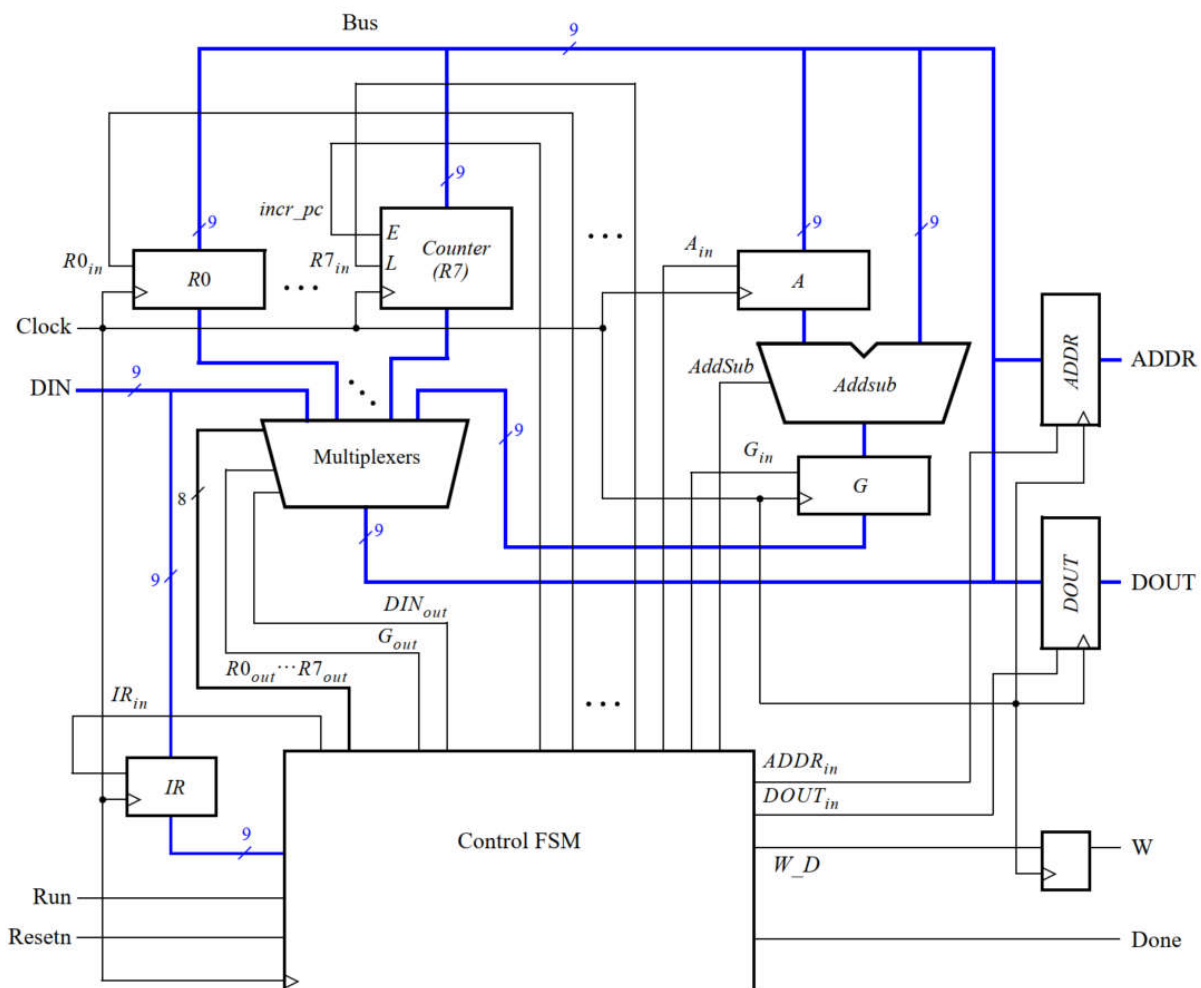
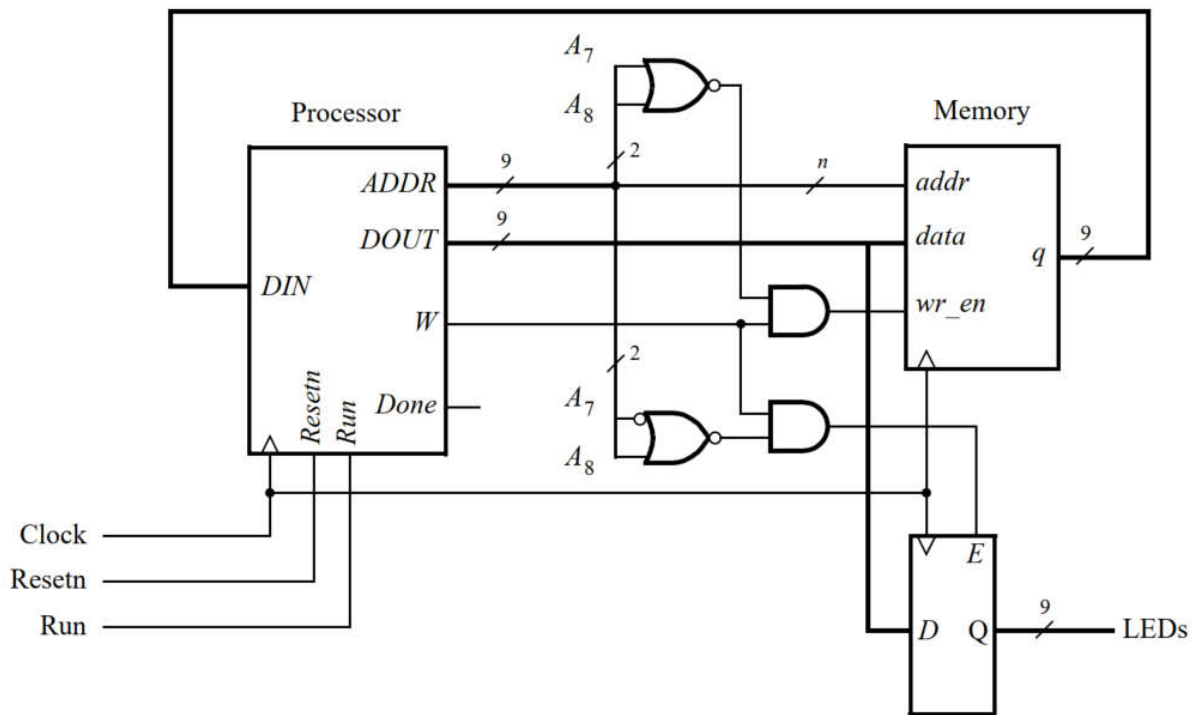

Figure 1: A reference schematic of the enhanced processor.
Figure 2: Connecting the enhanced processor to a memory and output register.
Requirement: Design and implement the processor which is shown in Figure 1. Then connect the enhanced processors to a memory and output register (Figure 2).
➤ Write System Verilog code for the processor and test your circuit by using functional simulation: apply instructions to the DIN port and observe the internal processor signals as the instructions are executed. Pay careful attention to the timing of signals between your processor and external memory; account for the fact that the memory has registered input ports, as we discussed for Figure 2.
➤ Create a Quartus project that instantiates the processor, memory module, and register shown in Figure 2. Use the Quartus IP Catalog to create the RAM: 1-PORT memory module. Follow the instructions provided by the wizard to create a memory that has one 9-bit wide read/write data port and is 128 words deep. Ensure that the output is
- Include in your project the necessary pin assignments to implement your circuit on your DE-series board. Use switch SW9 to drive the processor's Run input, use KEY0 for Resetn, and use the board's 50 MHz clock signal as the Clock input. Since the circuit needs to run properly at 50 MHz, make sure that a timing constraint is set in Quartus to constrain the circuit's clock to this frequency. Read the Report produced by the Quartus Timing Analyzer to ensure that your circuit operates at this speed; if not, use the Quartus tools to analyze your circuit and modify your Verilog code to make a more efficient design that meets the 50-MHz speed requirement. Also note that the Run input is asynchronous to the clock signal, so make sure to synchronize this input using flip-flops. Connect the LEDs register in Figure 2 to LEDR8-0 so that you can observe the output produced by the processor.